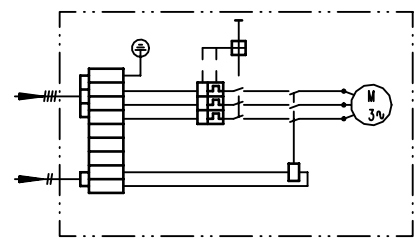

Fig. 9
- Fig. 9 shows a common type of wiring;